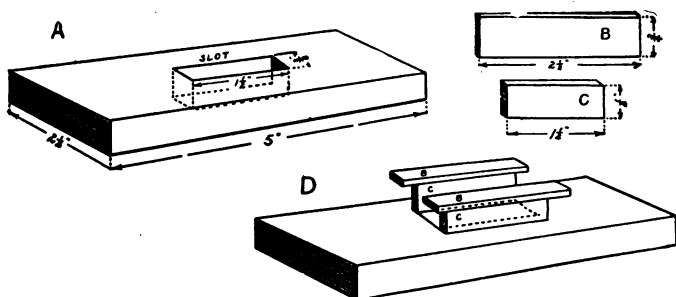

FIG. 102. — *A*, Base, showing Slot. *B* and *C*, Sides and Top of the Bobbin. *D*, Base and Bobbin in Position.
* When they are firmly in position, glue a strip of wood, two and one-half inches long, three-quarters of an inch wide and one-eighth inch thick to the top as shown by *D* in Figure 102.